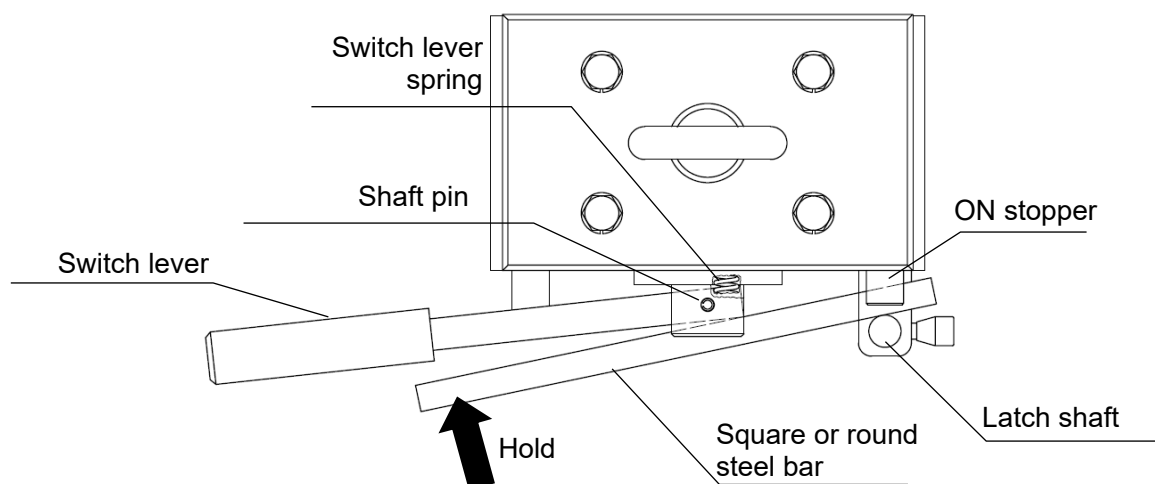

Figure 12-2 Striking the shaft pin
- ◆ For hole alignment, hitch the square 10×10 x length approx. 200mm or round $\Phi 10$ x length approx. 200mm steel bar on the latch shaft, perform the alignment while pressing the switch lever, and then insert the shaft pin as shown in Figure 12-2.
- Mount the switch cover. (Refer to (1) Switch cover, 2) Mounting.)